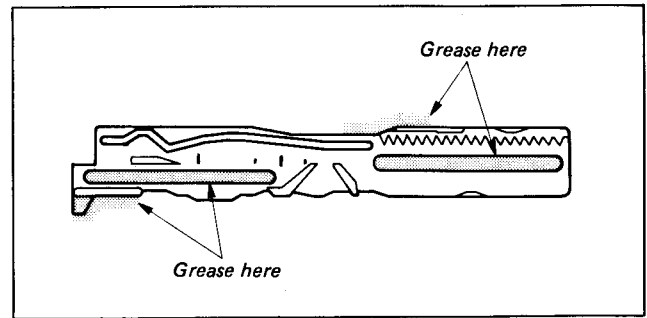

Fig. 1-44
- 1) Grease the slider. (See Fig. 1-44.)